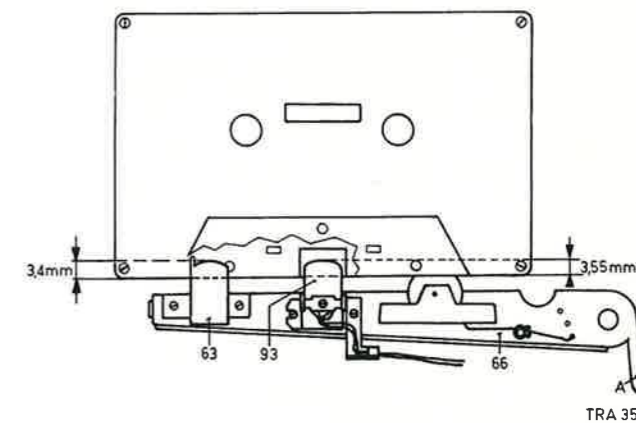

Fig. 8
Checking the insertion depth of playback head item 93 and erase head item 63 in the cassette (see Fig. 8)
- Playback head item 93 and erase head item 63 should now protrude approx. 3.55 mm and 3.4 mm respectively into the cassette.
- This can be checked by breaking a piece out of the cassette (see Fig. 8).
- The distance can be adjusted by slightly bending part A of head bracket item 66 (see Fig. 8).